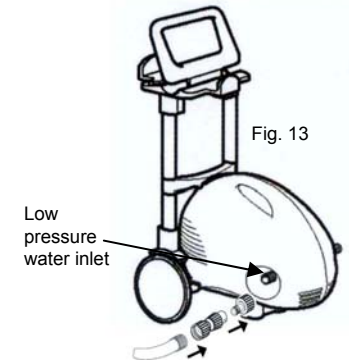

Fig. 13
1. Attach the male adapter (supplied) to the water intake connector on the left hand side of the unit. (Fig. 13)
2. Attach the female hose coupling to the garden hose. (Fig. 13)
3. Connect the female hose coupling to the male adapter making sure that it is tightly secured in place. (Fig. 13)